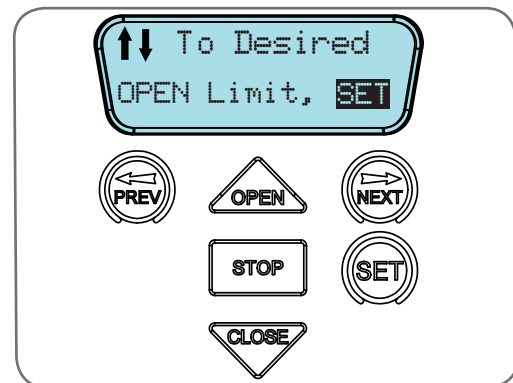

Fig 8.2
- c. When the Door is at the desired close position, press the SET button to record the close limit position. The display will change and the green open LED will start to flash (Fig. 8.2).